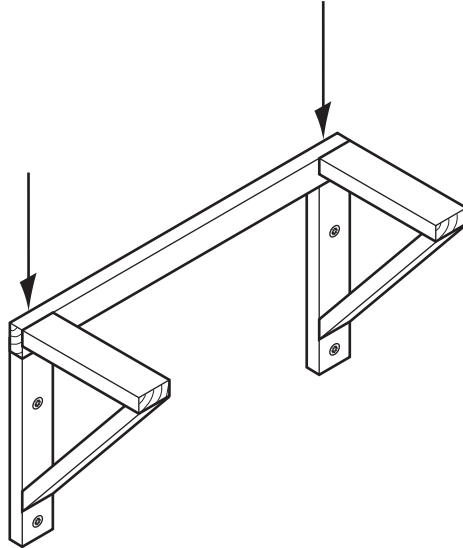

Fig. 1
- 1 Fig. 1 shows the support frame for a shelf unit attached to a wall using screws.